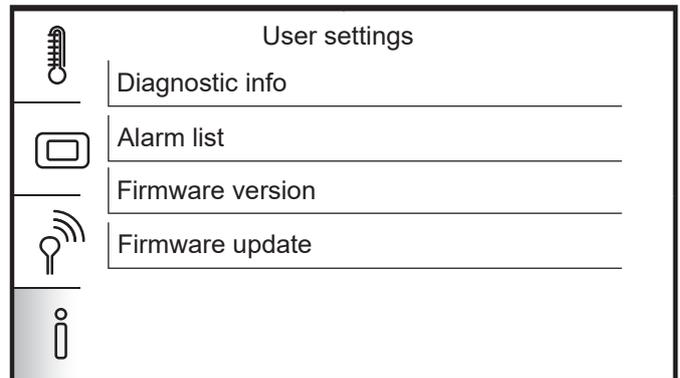

Figure D-3: Controller information options.
3. Tap the information icon at the bottom. Refer to Figure D-3.